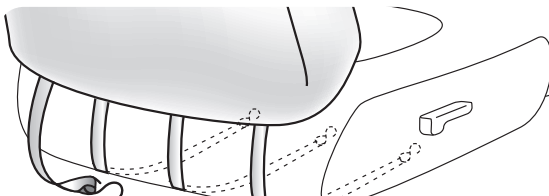

Fig 3.5 Strap through Loop
- c) **Strap through Loop** (Fig 3.5) - Feed the elastic straps from the front between the backrest and seat bottom through the elastic loops and then pull the elastic straps down to attach underneath the seat bottom.